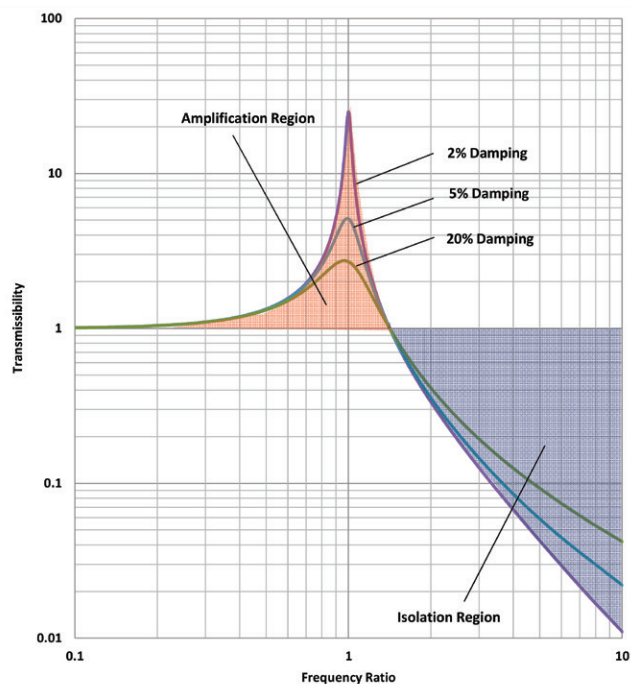

Figure 1
Figure 1 is a graphical representation of isolator transmissibility as a function of the frequency. Several percentages of critical damping are displayed to show the effect of damping in the isolation region and the amplification region, including the maximum amplification at resonance. ($F_D / F_N = 1$)
The property of damping is neglected in the static evaluation Equation (4), and this can have a significant effect on the isolation efficiency. Damping in an isolator has a beneficial effect because it helps to suppress vibration, but can also lead to a loss of isolation efficiency. To appreciate the effects of damping, refer to the transmissibility curves in Figure 1.